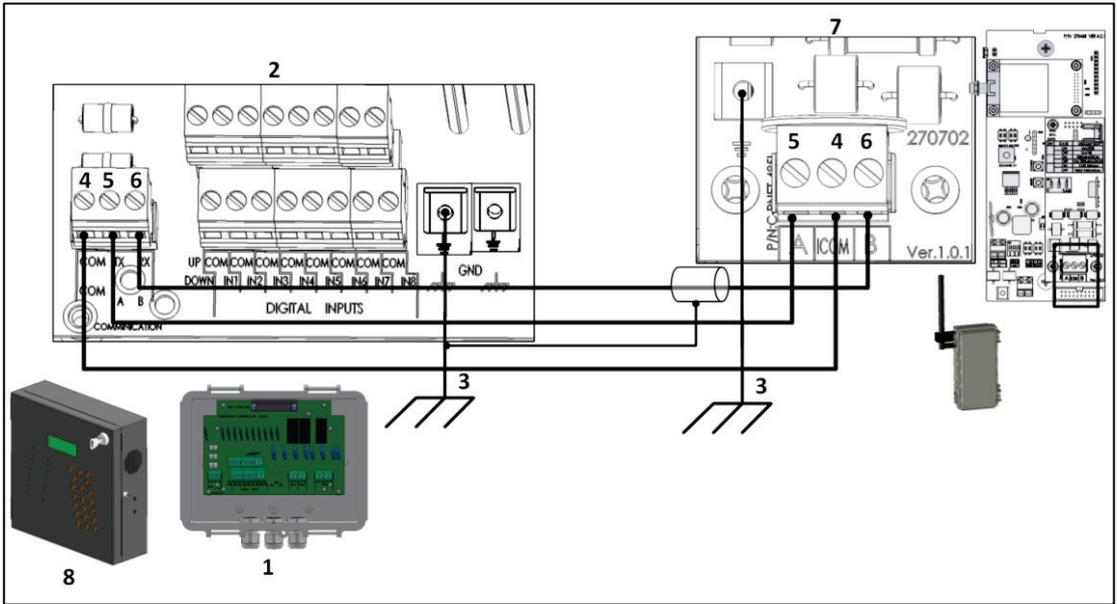

Figure 23: Wiring a Communicator external box to a RLINK ONE-485
- Figure 23: Wiring a Communicator external box to a RLINK ONE-485
Figure 23 key